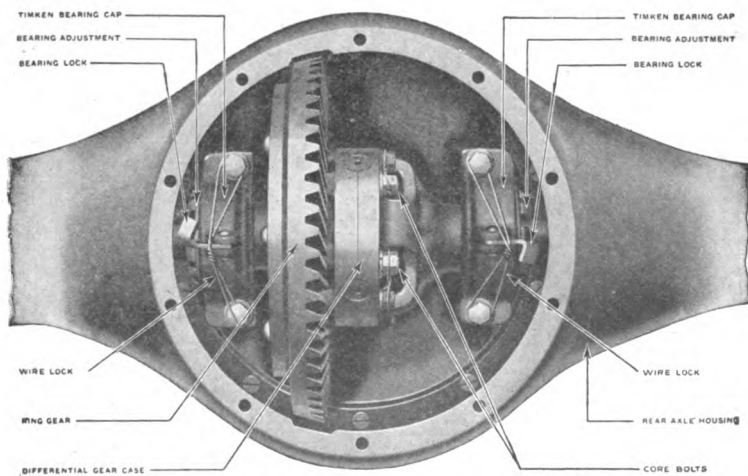
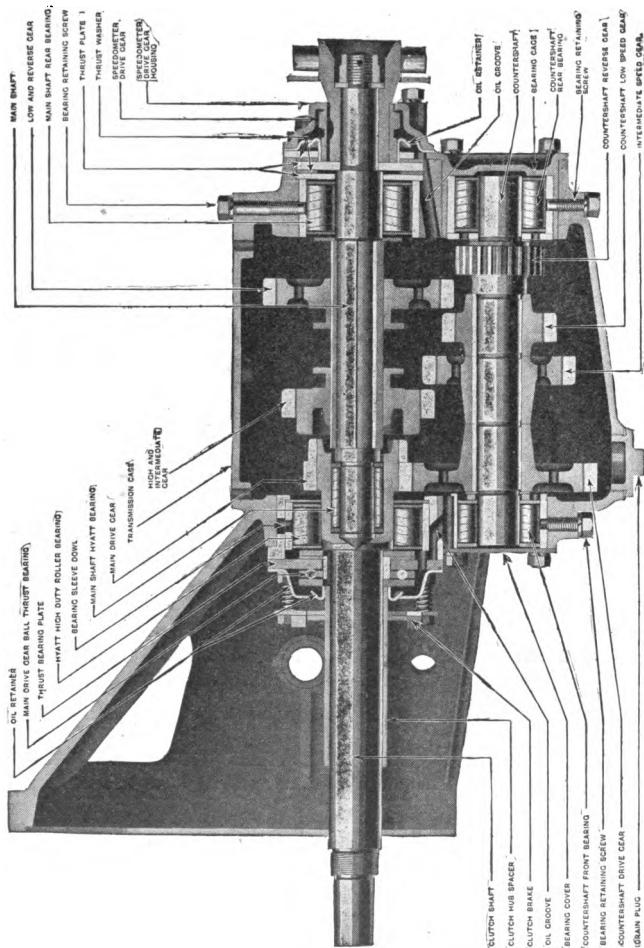

Fig. 25. Differential and Ring Gear of the Chalmers Car
Fig. 27. Sectional View of the Transmission as Used on the Chalmers
**Transmission.** A cross-sectional view of the transmission is shown in Fig. 27. This transmission is of the three-speed forward and one reverse type, having two sliding gears on the main shaft, the low and reverse gear and the high and intermediate gear.
**Differential Unit.** The differential and the ring gear are shown in Fig. 25. The main drive shaft, Fig. 27, is connected to the ring gear by means of a drive shaft and spiral bevel gear. This gear, which is turned by the motor, continually meshes with the ring gear and turns the rear axles, thus causing the car to move.